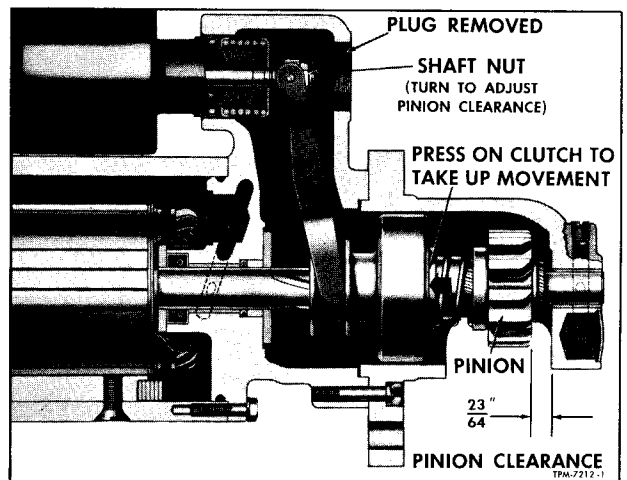

Figure 10—Pinion Clearance Check and Adjustment
2. With solenoid energized and drive clutch shifted toward the nose housing, push the pinion back toward armature to take up slack, then check clearance between the pinion and nose housing (fig. 10). Adjust nut on solenoid plunger rod as necessary to obtain the proper clearance of $\frac{23}{64}$ inch. After correct adjustment is obtained, install access plug and gasket in shift lever housing.